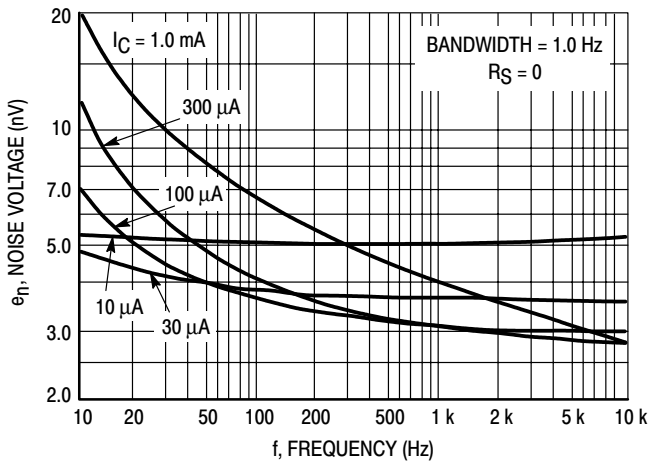

Figure 3. Noise Voltage
- $e_n$  = Noise Voltage of the Transistor referred to the input. (Figure 3)
$e_n$  = Noise Voltage of the Transistor referred to the input. (Figure 3)